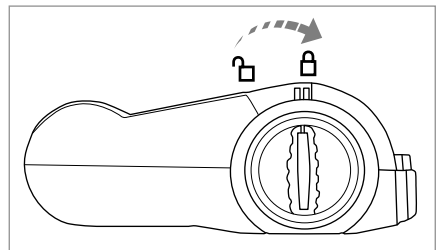

Fig. 9
- 5) Insert the rotary brush **13** into the floor nozzle **16** and turn the rotary brush release **17** toward the symbol  (closed) (Fig. 9).